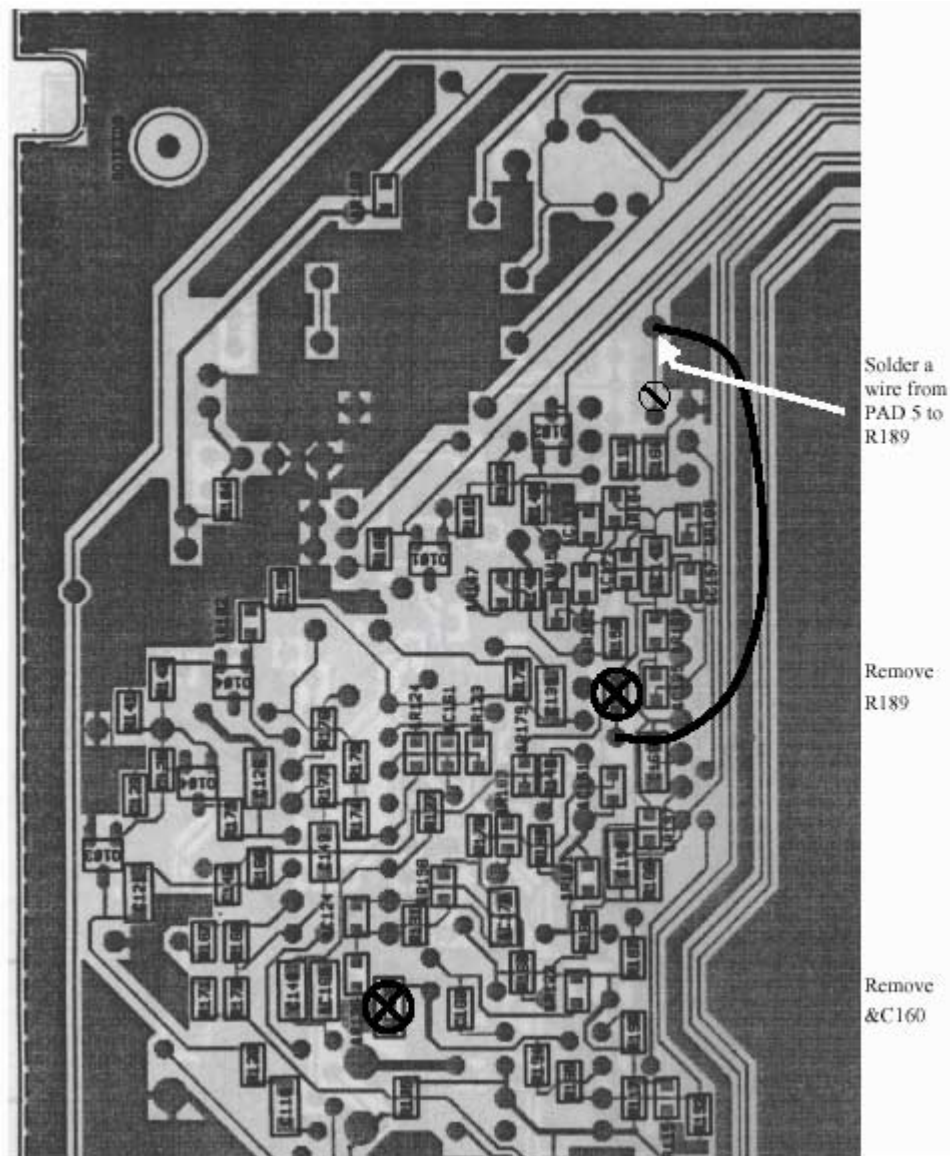

Figure 7 - T881 Exciter PCB. Bottom side (opposite handle side). 4/5
9. On the bottom side, remove R189 (560Ω) resistor and &C160 (47nF) capacitor. .Refer to Figure 7, page 9.
10. On the bottom side, cut the trace between I/O PAD5 and the pad going to C156 and R146. Refer Figure 7.
11. On the bottom side, solder a 1.5" wire (26AWG) from the feedthrough (connected on one side of R189 pad) to I/O PAD5. Figure 7, page 9. (Note 2 & Note 6)